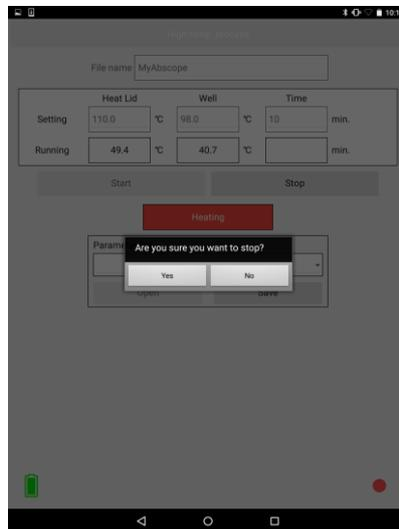

Figure 3-12: High-temperature treatment stop confirmation screen
To quit high-temperature treatment halfway, tap the high-temperature treatment stop button (4) in Figure 3-4. You will be asked “Are you sure you want to stop?” as shown in Figure 3-12. Tap “Yes” to stop, or “No” to continue the high-temperature treatment.